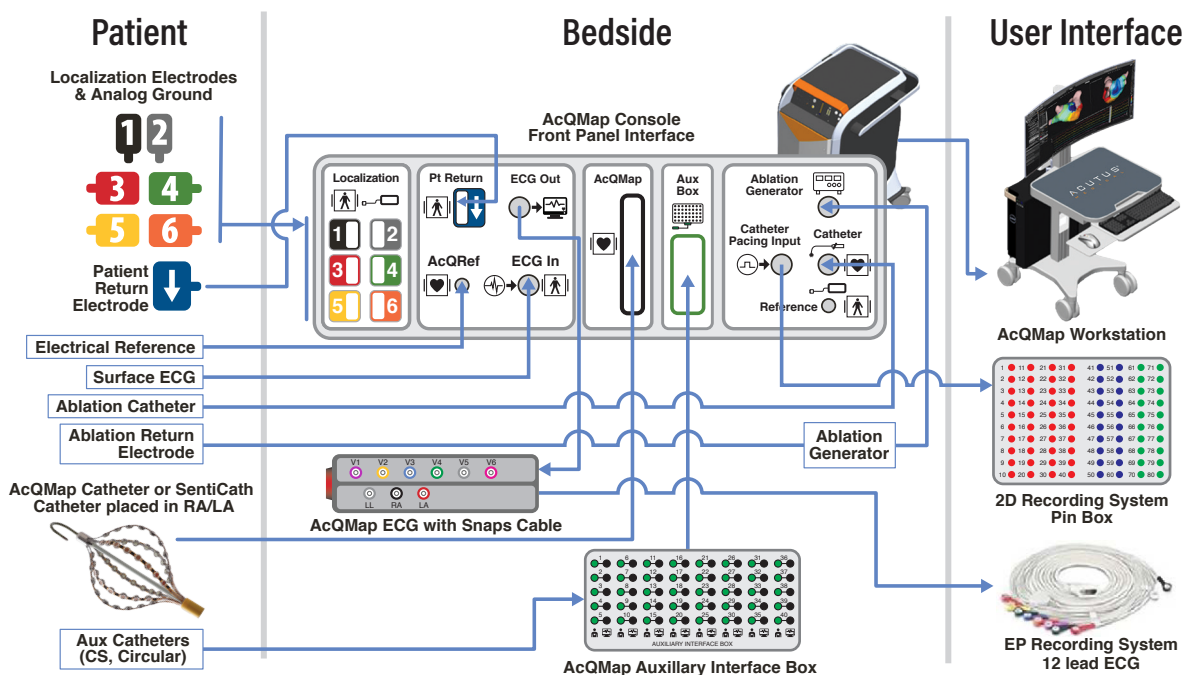
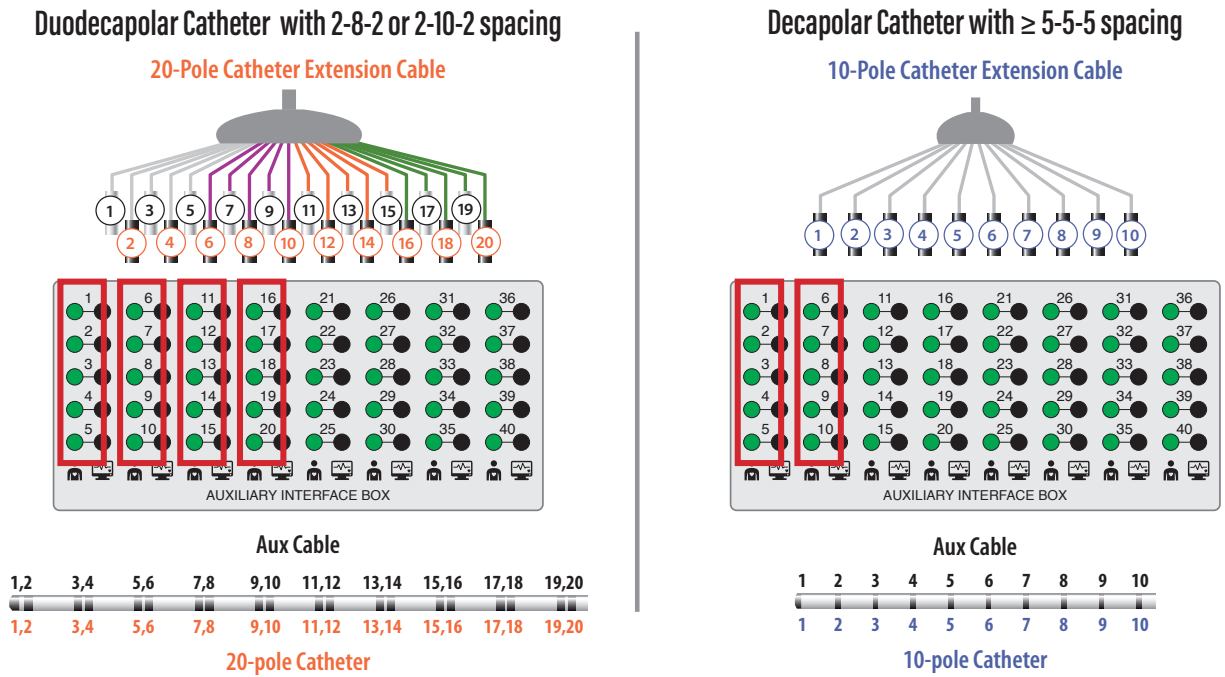

Figure 5-1. AcQMap System connections.
Figure 5-3. Anatomic Reference Catheter specifications and connections.
Refer to *Figure 5-1* through *Figure 5-3* when performing the following steps.
3. Connect the Electrical Reference Catheter/Cable to the AcQMap Console front panel per Chapter 5, Figures 5-1 and 5-2.
1. Insert an Anatomic Reference Catheter into the right or left femoral vein per standard laboratory procedure. (Refer to *Figure 5-3* for recommended catheter/electrode spacing requirements).
3. Connect the Anatomic Reference Catheter/Cable to the AcQMap Auxiliary Interface Box using the appropriate manufacturer's catheter extension cable per Figures 5-1 and 5-3.